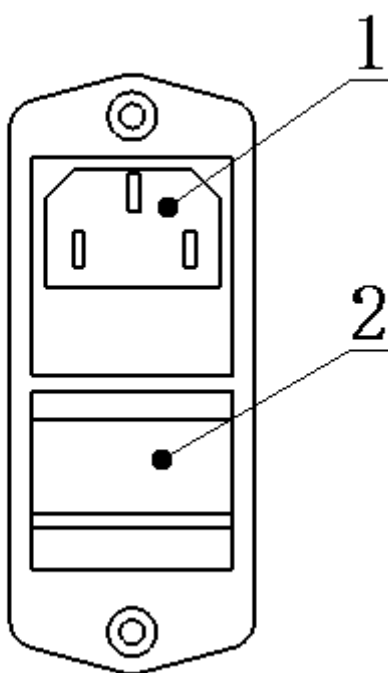

Fig. 2-5 Power switch assembly
- 3) Referring to Fig.2-5, open the fuse back cover with a screwdriver.